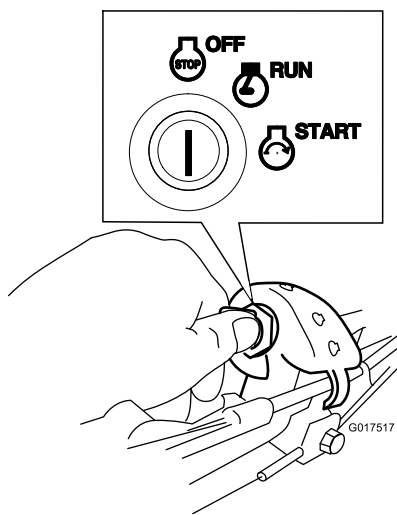

Figure 19
1. Turn the ignition key to the Off position (Figure 19).